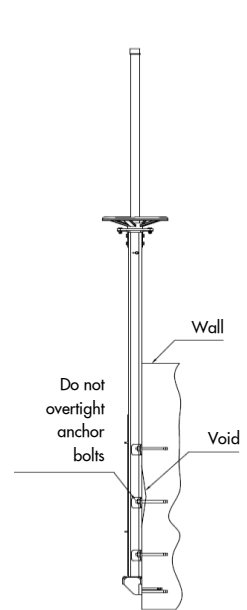

Figure 14
**CAUTION!:** If the channel gate is not completely in contact with the wall, do not over-tighten the anchor bolts. Over tightening may bend or distort the frame. If the wall flatness and levelness is according to the specified standards, the construction sealant will fill in the remaining void (see Figure 14)